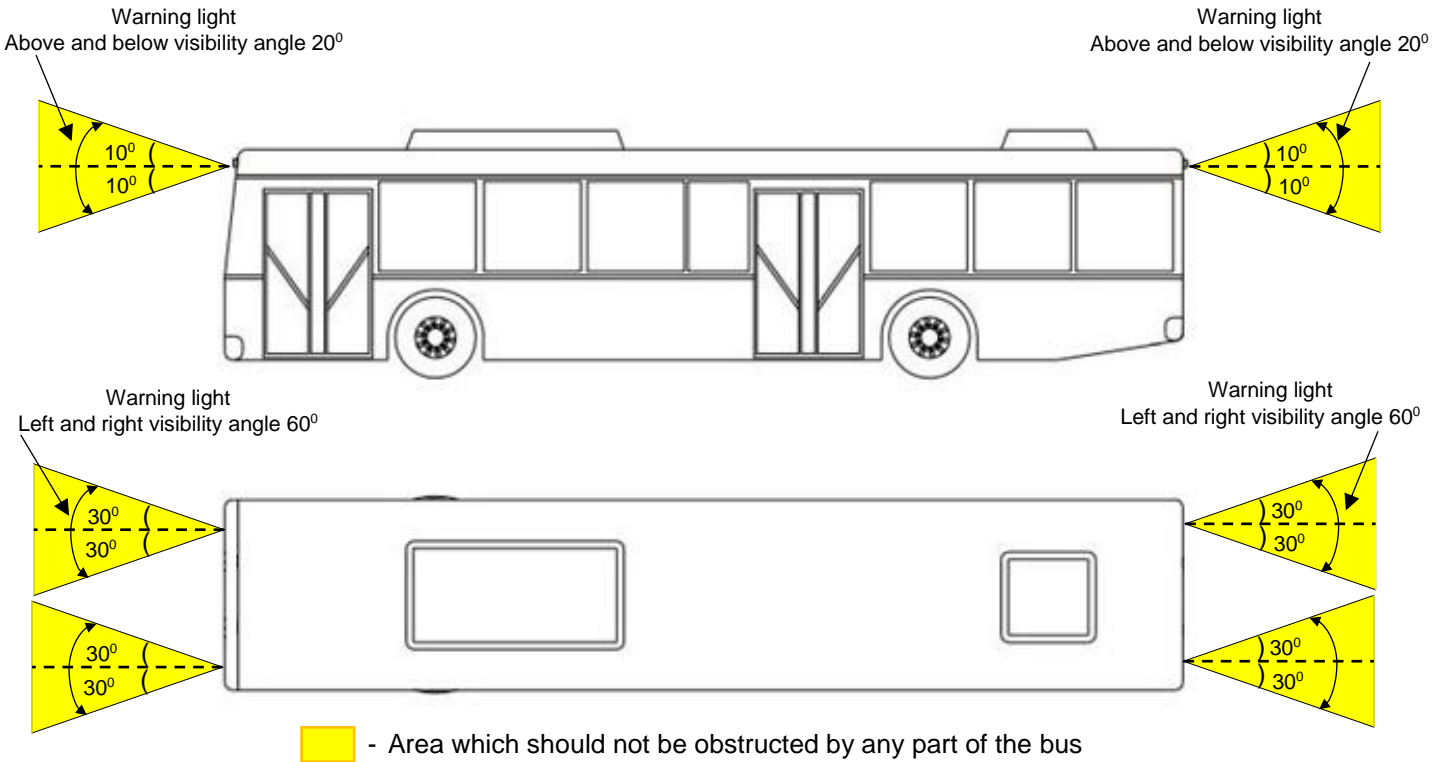

Figure 9 - Warning lights positioning
- The warning lights must be fitted, so that no part of the bus would obstruct the lights displayed (*Figure 9*);